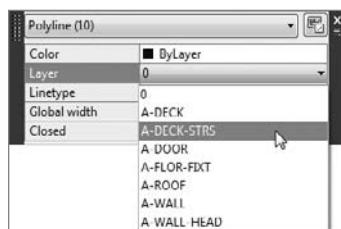

FIGURE 6.22 Assigning the objects to the Steps layer
4. Click in the Layer field; then click to expand the Layer drop-down list and choose the A-DECK-STRS layer, as shown in Figure 6.22.